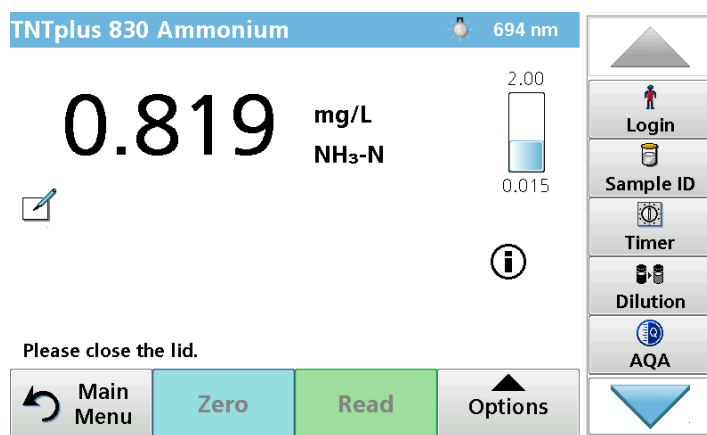

Figure 3: Over range sample measured on single wavelength program
- Figures 3 and 4 show the different values obtained for a high concentration standard measured with the single and multiple wavelength programs.